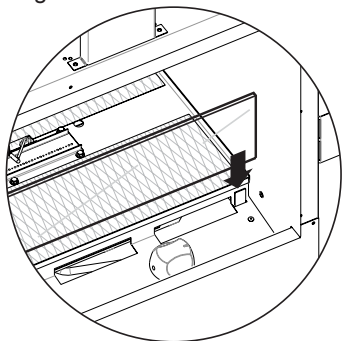

Figure 24
2. Install the glass wind panel (two used on see-through fireplaces). See Figure 24.